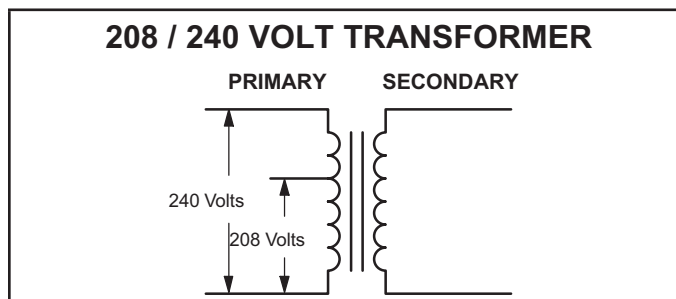

FIGURE 20. Converting Unit from 240VAC to 208VAC
- 2 - Slide the control panel into the notch on the electric heat mounting panel (figure 19). Using the screws removed in Step 1, secure the control panel to the end panel, as shown in figure 20.